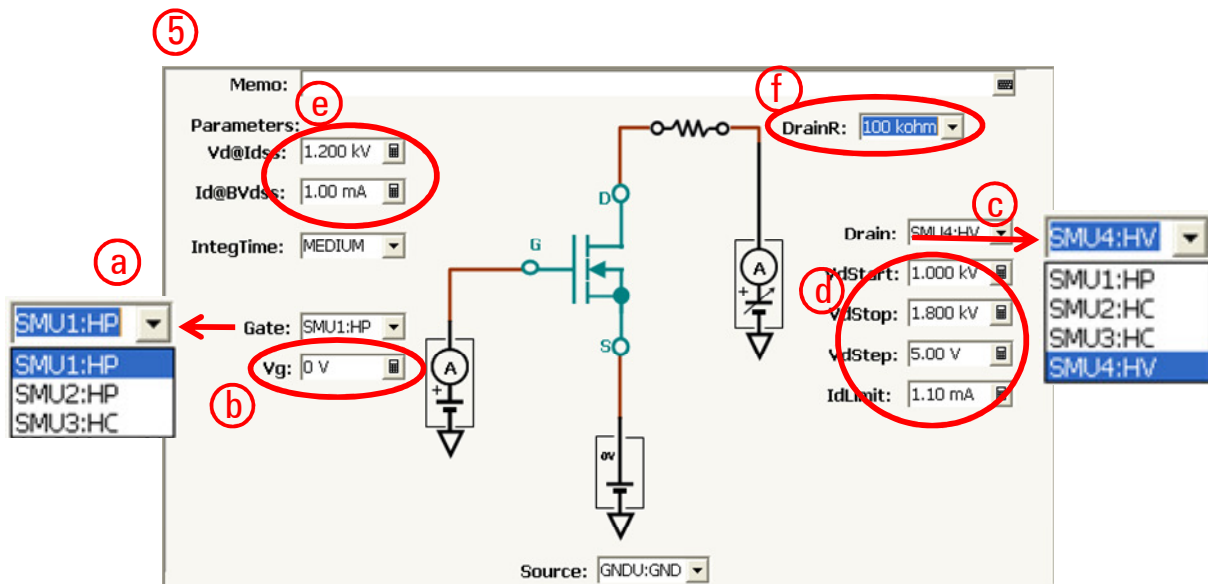

Figure 3-57. Id(off)-Vds R Application Test setup with 100 kΩ drain R.
All the test setup steps are the same as in the previous section A or in figure 3-53 except for only one setup step 5-f as shown in figure 3-57.
Step 5. Set the test parameters shown in figure 3-57 to an appropriate one depending on your B1505A configuration and your test device.